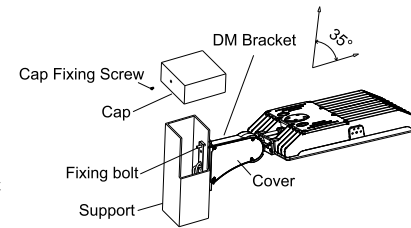

Figure 14
2. DIRECT MOUNTING (DM)
Step 1: Open the side lid of direct bracket, let the power cable go through the direct bracket. Fix the direct bracket to the end of lamp body with bolt. Let the pole cable go through the direct bracket. (Figure 14)